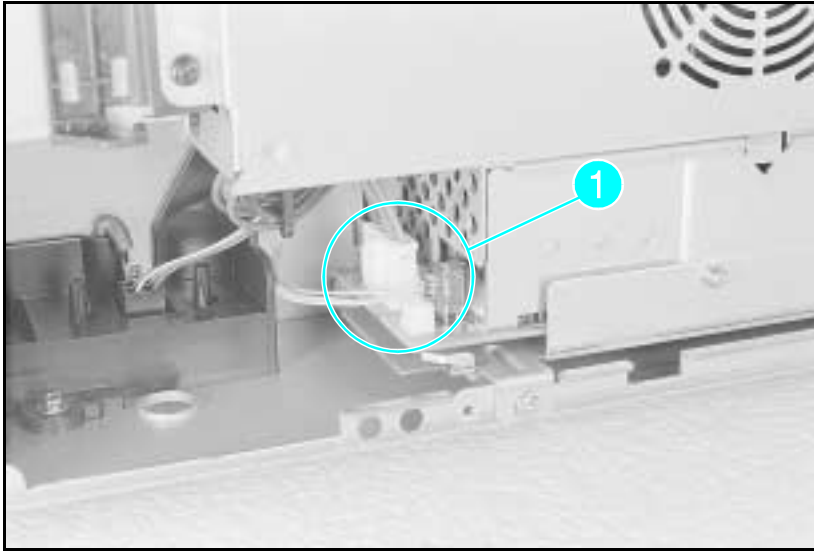

Figure 6-15 **6-wire and 3-wire Connectors for the Power Supply**
- 6** Remove the (2) connectors (6 wire and 3 wire). (See Figure 6-15, callout 1.) Squeeze the release tab on the 6-wire connector. Pull the 3-wire connector straight up.